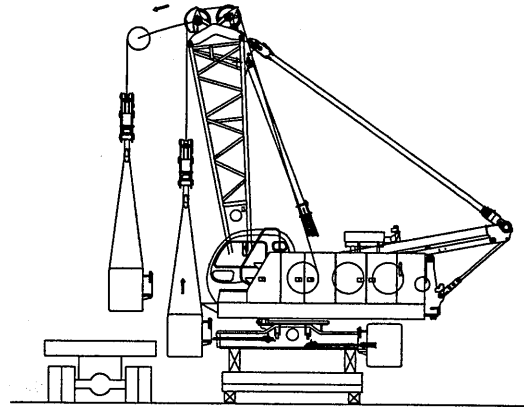

Fig. 11-23
- (8) Place a trailer for transporting crawlers beside the machine, and lay the crawler on the trailer. (Fig. 11-23)